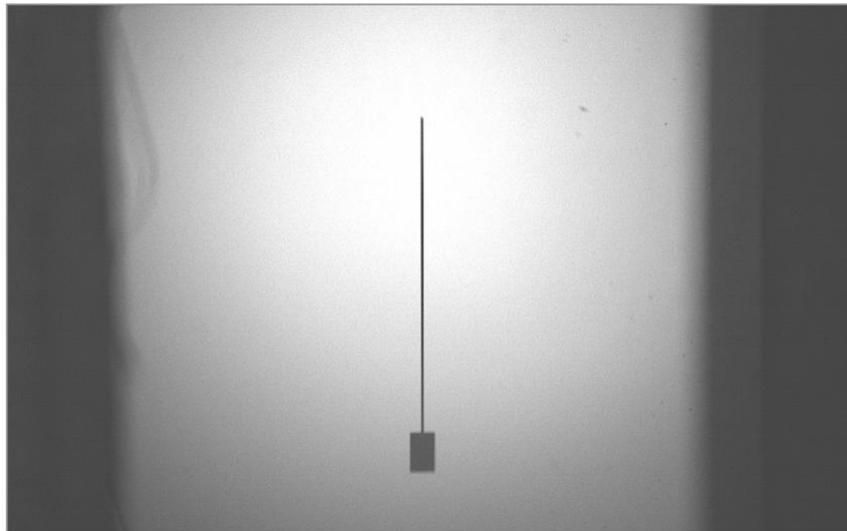

Figure 2. The appearance of the 32-micron-wide slit, as seen from a large-sensor guiding camera (model ZWO ASI174MM Mini).
At the end of each slit, a 0.5 mm-long section widens by a factor of 10 (see Figure 2). This widening serves two purposes: (1) to provide additional information on instrument operating conditions (such as atmospheric turbulence, instrumental efficiency, alignment quality, and instrumental response evaluation); (2) to enable spectrophotometric data acquisition, facilitating the calibration of spectra to absolute flux values.